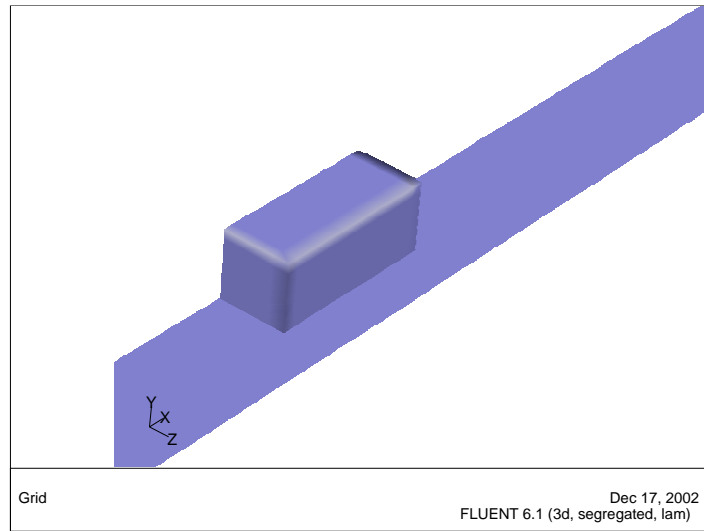

Figure 22.9: Filled Surface Display for the Chip and Board Top
- (k) Use your mouse to obtain the view shown in Figure 22.9.